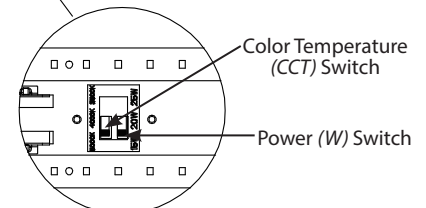

Fig: 8
3. Select **Power (W)** and **Color Temperature (CCT)** by sliding respective switch to the desired value (*Fig. 8*).